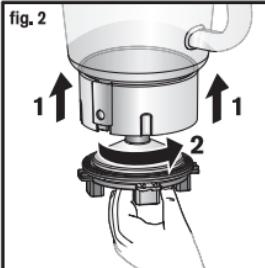

fig. 3
- Place the blender jug assembly (**E**) on the motor unit (**A**). The blender jug can be placed in two positions: jug handle to the right or the left of the motor unit (**Fig. 3**).
- To lock and unlock the blade unit easily, you can use the lid and the arrow lock position. (**Fig. 3, 4, 5**)